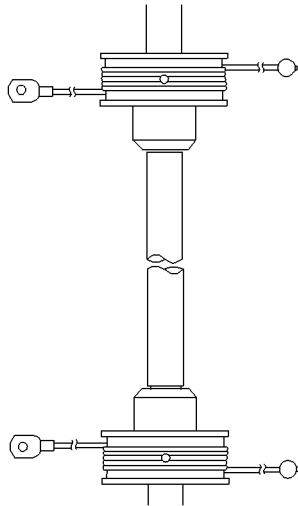

Figure 7 Carriage Cable Windings
- d. Check orientation of ends and number of carriage cable windings (front/rear) (Figure 7). Reconfigure as required.